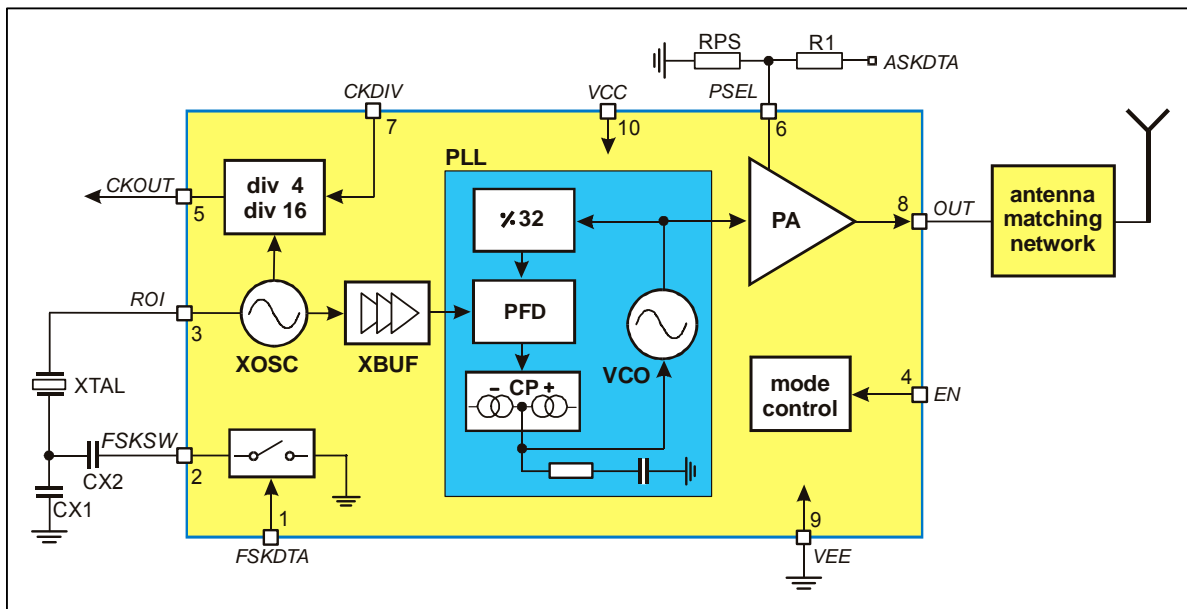

Fig. 1: Block diagram with external components
As depicted in Fig.1, the TH72016 transmitter consists of a fully integrated voltage-controlled oscillator (VCO), a divide-by-32 divider (div32), a phase-frequency detector (PFD) and a charge pump (CP). An internal loop filter determines the dynamic behavior of the PLL and suppresses reference spurious signals. A Colpitts crystal oscillator (XOSC) is used as the reference oscillator of a phase-locked loop (PLL) synthesizer. The VCO's output signal feeds the power amplifier (PA). The RF signal power  $P_{out}$  can be adjusted in four steps from  $P_{out} = -12$  dBm to  $+10$  dBm, either by changing the value of resistor RPS or by varying the voltage  $V_{PS}$  at pin PSEL. The open-collector output (OUT) can be used either to directly drive a loop antenna or to be matched to a 50 Ohm load. Bandgap biasing ensures stable operation of the IC at a power supply range of 1.95 V to 5.5 V.